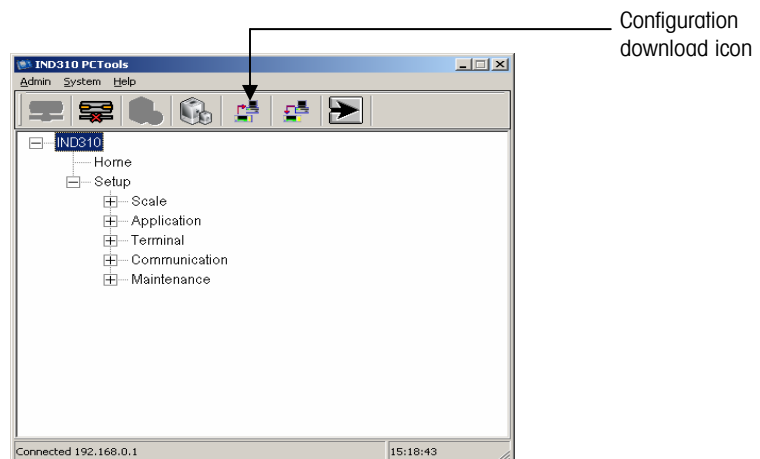
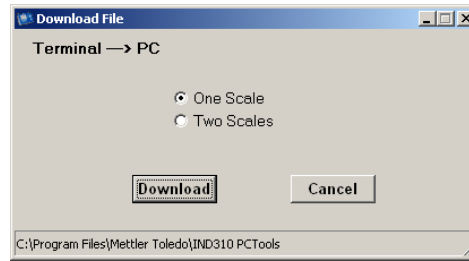

Figure B-26: Configuration Download
Figure B-27: Download File Dialog Box
1. Click on the configuration download icon (Figure B-26) to save the current scale configuration. The Download File dialog box displays (Figure B-27).
5. A dialog box with the message Download Complete displays. Click on OK. The Download File dialog box displays again (Figure B-27).